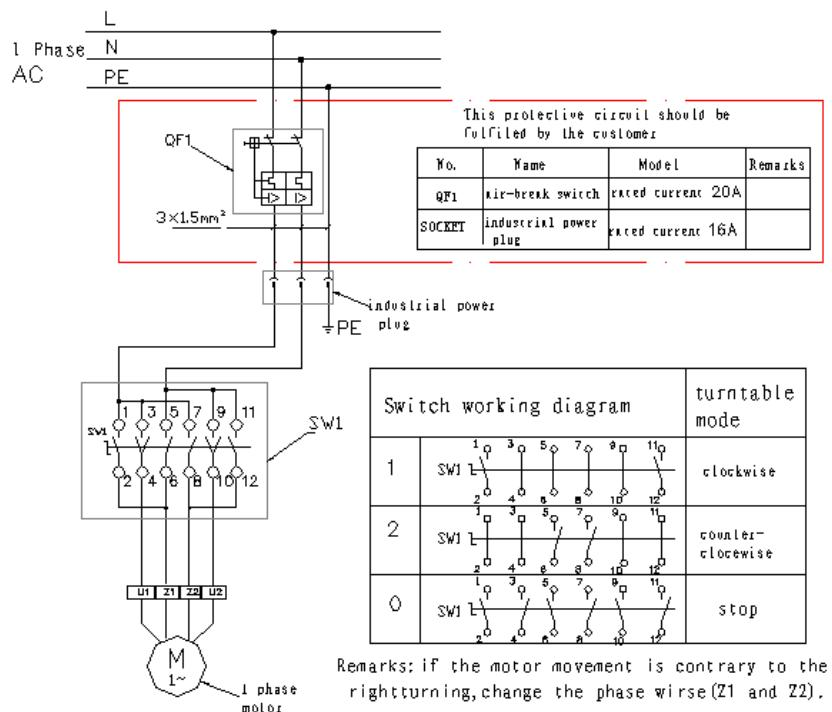

Fig 40
**1002154 Quick inflating system-optional (Fig.40)**